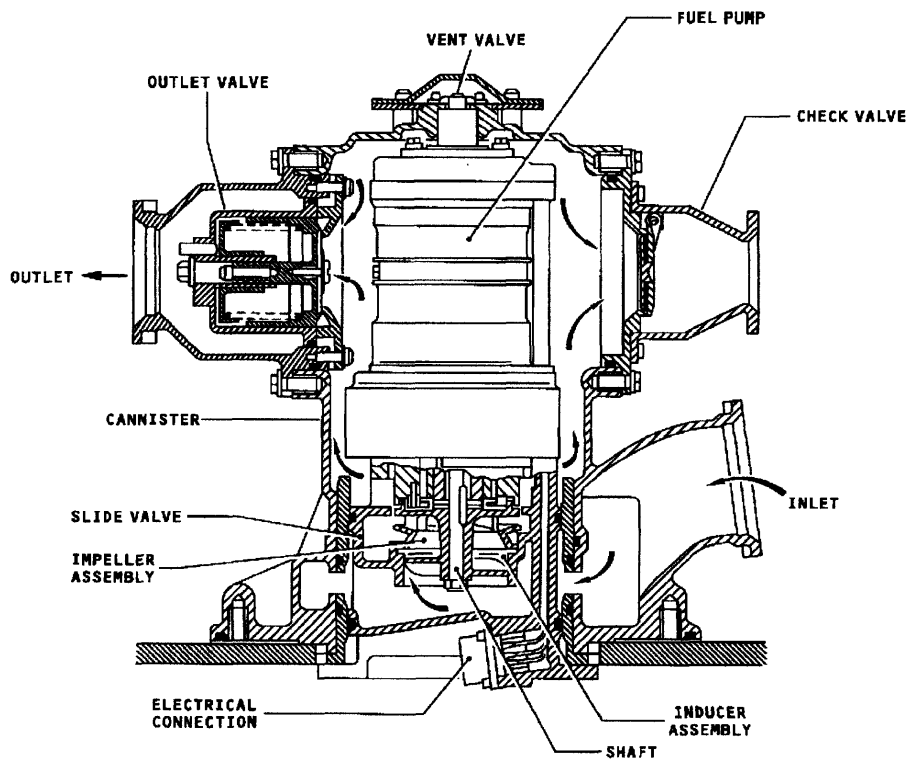

Figure 7.1 Centrifugal fuel pump (A321)
The **centrifugal pump** (Figure 7.1) draws fuel into the center inlet of a centrifugal impeller and expels it at the outer edge. Fuel can flow through the pump when the pump is not in operation. This eliminates the need for a *bypass valve*.
- The *engine feed system* takes fuel from the wing tanks and supplies it to the engines. Two main pumps (Figure 7.1) are located in each wing tank.